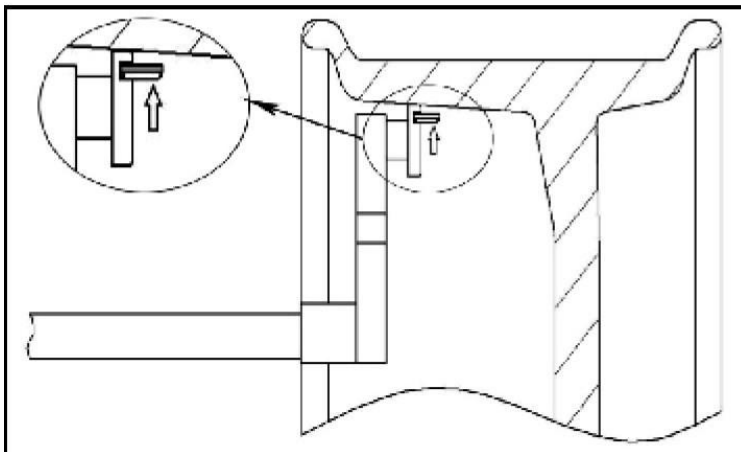
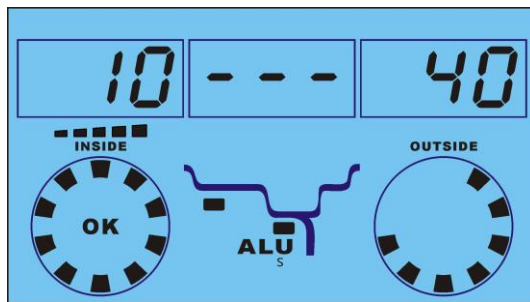
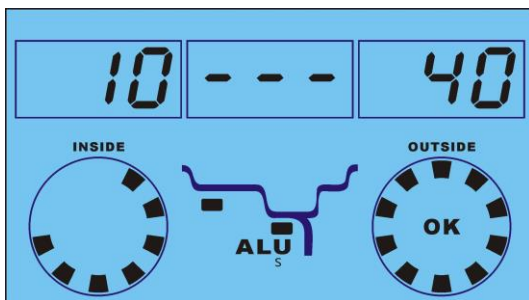
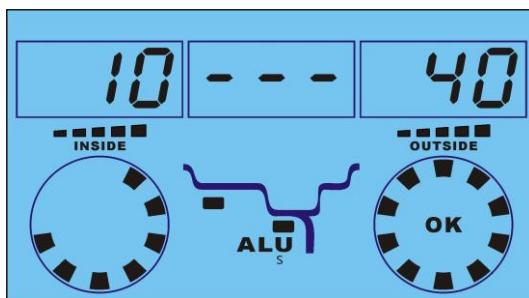

Fig. 26
Fig. 27
Fig. 28
Fig. 29
(Fig.26), pull until there is a square turn out like Fig.27, stick the weight on the rim.
10.2.2. Rotate wheel by hand until the right flash bar light full (Fig. 28), put proper weigh on the gauge head, (Fig.26), pull until there is a square turn out like Fig.29, stick the weight on the rim.